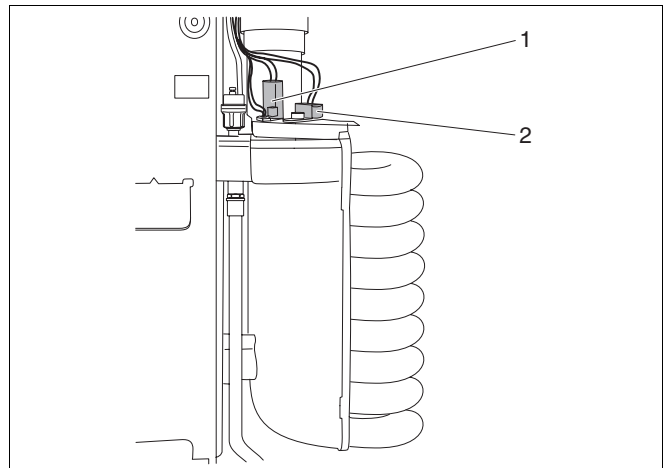

Fig. 31 Remove the hot surface ignitor and ionisation electrode
- Remove the hot surface ignitor (fig. 31, item 1) and ionisation electrode (fig. 31, item 2).